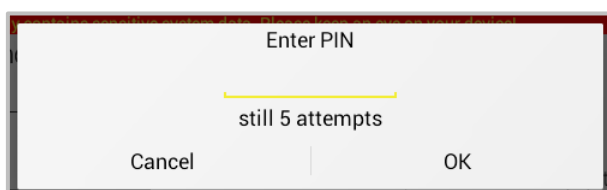

Figure 91: Xesar tablet — entering the initialisation PIN
- You are prompted to enter your initialisation PIN. (Figure 91: Xesar tablet — entering the initialisation PIN) Enter the **4-digit code**.